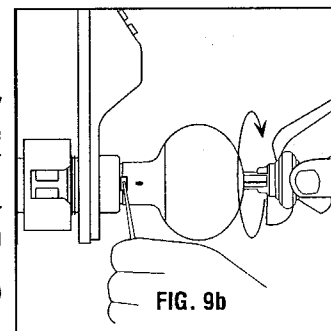

FIG. 9b
3. With key 1/2 way in cylinder place knob on spindle. Wiggle key to obtain proper alignment. Be sure to push knob straight on up to lever/knob catch. **(See FIG.9b)**